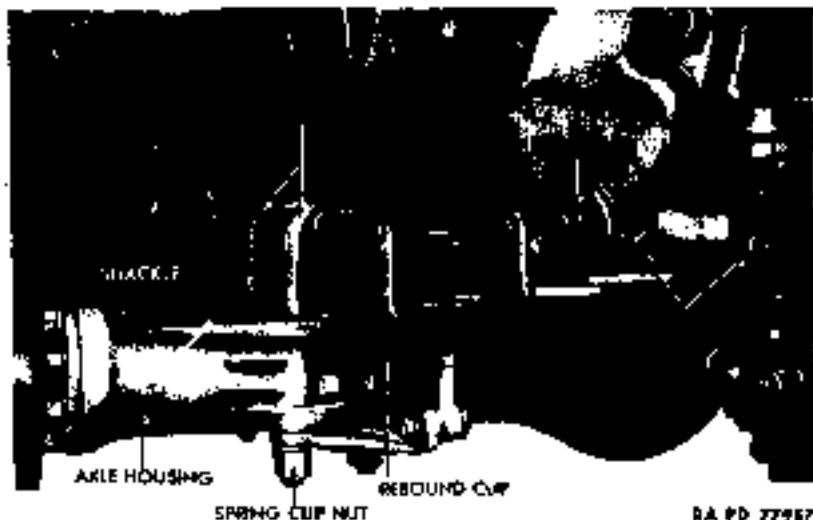

Figure 83 — Front Spring Installed
a. **Description (fig. 83).** The front springs are attached to frame side rails and front axle housing. Two spring clips secure center of spring to housing. The rear of spring is attached to frame by a shackle, and the front is attached by a bracket.
b. **Removal (fig. 83).**
c. **Installation (fig. 83).**
(5) **REMOVE DRAW KEYS** (fig. 83). Remove the four nuts and lock washers which secure the two draw keys at each end of spring, and drive out keys.